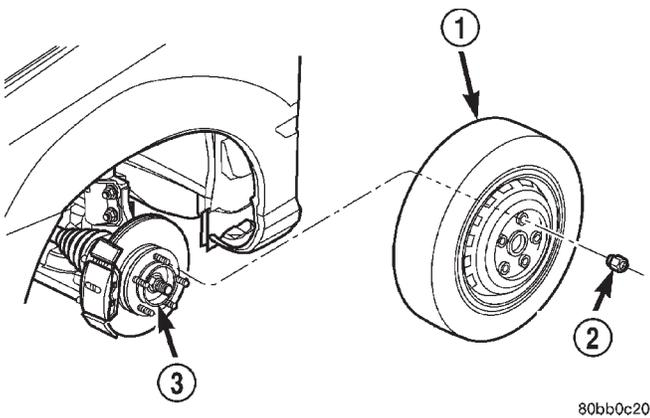

Fig. 16 Wheel and Tire Installation
(9) Install front wheel and tire assembly. Install front wheel lug nuts (Fig. 16) and tighten to 128 N·m (95 ft. lbs.).